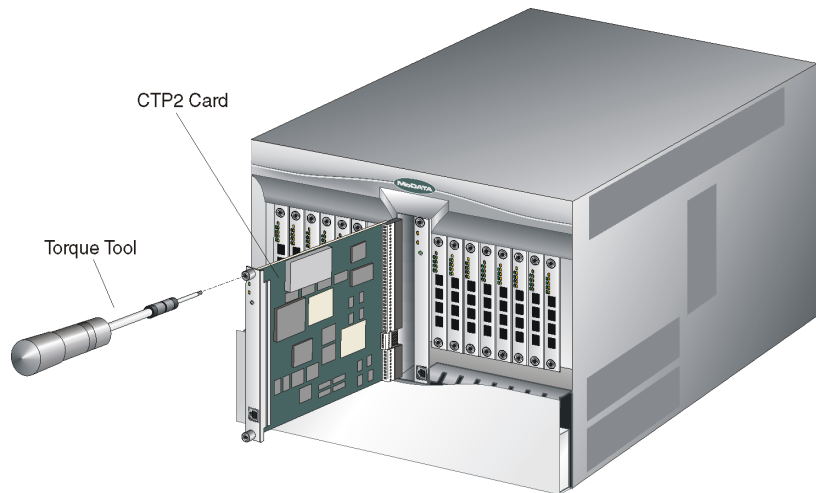

Figure 5-4 CTP2 Card Removal and Replacement
- b. Insert the torque tool into the cam Allen screw at the **top** of the card (Figure 5-4). To unseat the CTP2 card and cam it out of the backplane, turn the screw counterclockwise until the tool turns freely.
3. Hold the card by its stiffener and insert it in the chassis card track (Figure 5-4). The label identifying the card should be at the top. Verify the card is aligned in the card tracks, then slide it forward until it makes contact with the backplane.